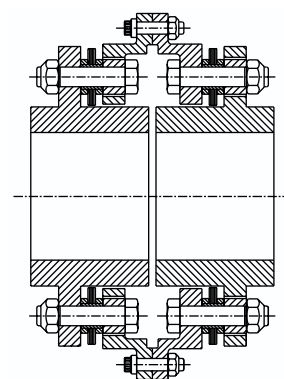

Figure 7. Bolt Adapter Flanges Together
- 5.3 Bolt the flanges together using the flange bolts and nuts. See Figure 7. Tighten all flange nuts evenly and in an alternating fashion to the torque specified in Table 4.